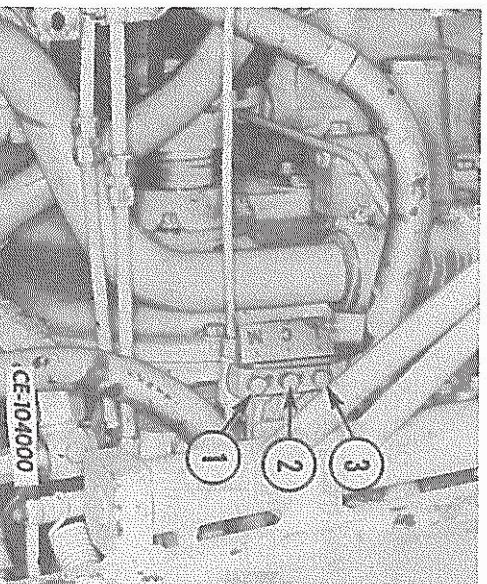

FIG. 4C — Transmission Oil Pressure Check Points With Plugs
1. Remove the rear platform and connect the "Power Shift Test Kit" PLT-872 to the test parts shown in Fig. 4C or 4D.